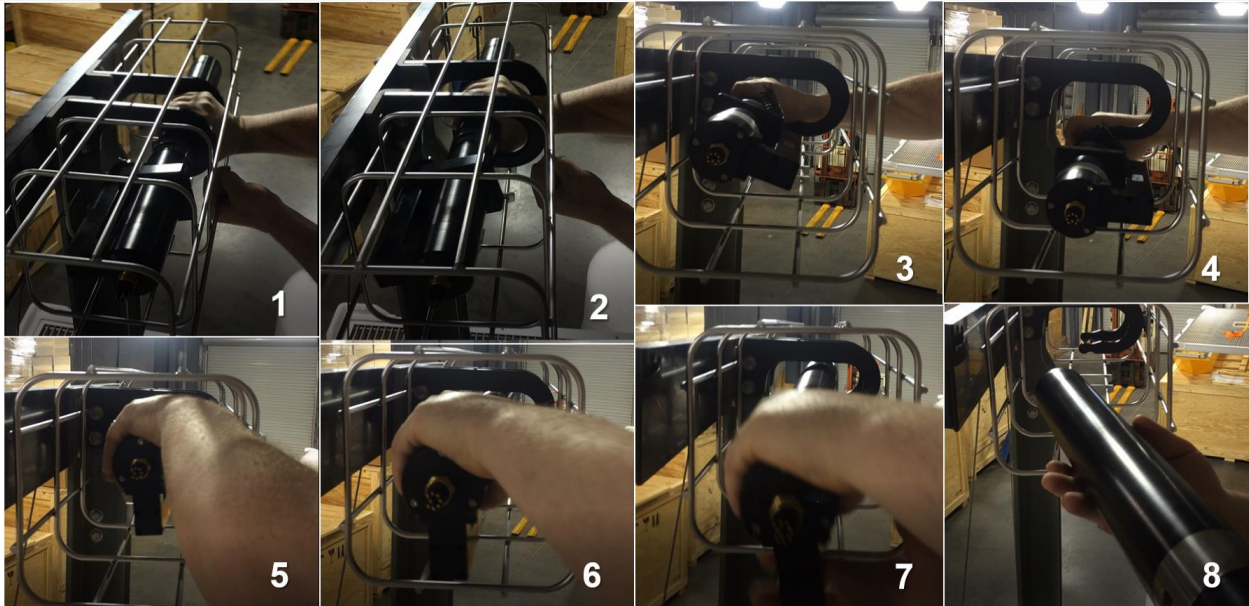

Figure 61. Remove SUNA from Dual PAR SUNA Mount Cage Clamps (Source: YSI Mechanical Engineer, Allen Hunter)
STEP 3 | Pop the SUNA out of the cage from the three clamps using a small amount of force (Figure 61). Use a firm grip, hold onto the cage with one hand and push on the SUNA with the other hand (Picture 1 and 2 in Figure 61). This frees it from the two black clamps in the cage. Slide the SUNA out either from
below or above the two clamps (Picture 3-7 in Figure 61). Reach in a pull the SUNA out while supporting it with your hands (Picture 8 in Figure 61).